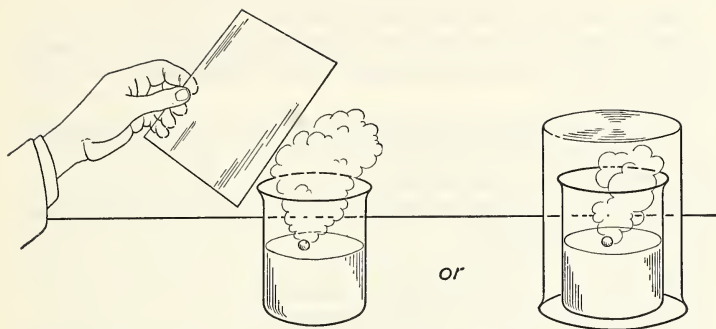

Fig. 32. Using a glass plate or inverted beaker in watching the action of sodium or potassium on water.
3. Using dry forceps, place a small sodium cube on a piece of filter paper. Using another piece of filter paper, gently pat the cube to remove any adhering liquid. Again pick up the sodium with forceps and drop it into a beaker half filled with water. **Immediately** cover the beaker with a glass plate or a larger inverted beaker, as illustrated in Figure 32, in order to protect the eyes should the sodium explode. If the sodium should stick to the glass, it should be dislodged by a gentle shaking of the beaker. Observe the behaviour of this active metal.